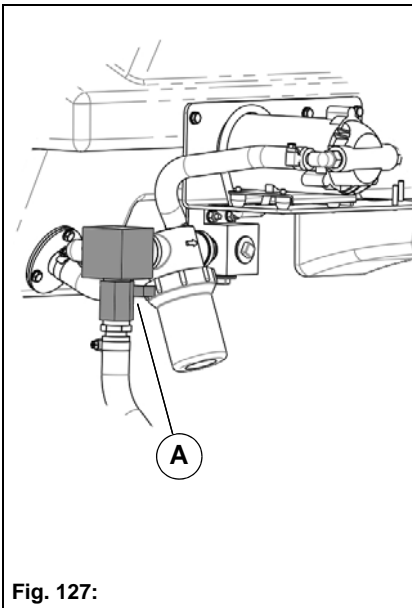

Fig. 127:
2. Open the hand valve **Fig. 127-A** and empty the fresh water tank.